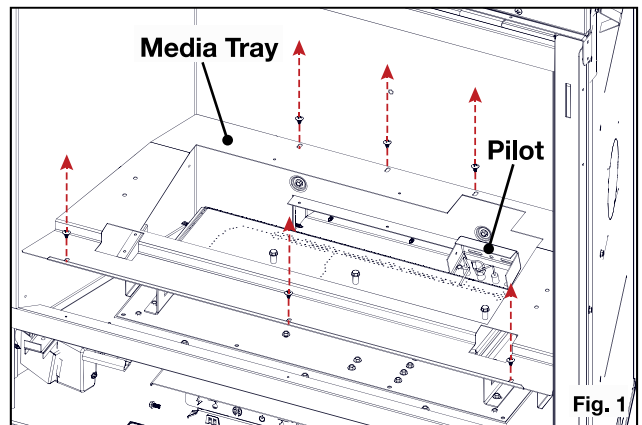

Fig. 1
2. Remove the two (2) screws securing the grate in place.
3. Remove the six (6) screws securing the media tray in place (**Fig. 1**).
7. Remove the two (2) screws securing the pilot in place (**Fig. 1**). Using a backup wrench, remove the pilot tube from the bottomside of the pilot (**Fig. 3**). Remove the pilot orifice and replace with the one supplied. Reattach the pilot tube and pilot to the bracket.